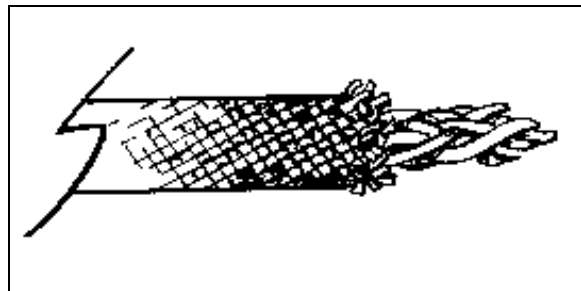

Figure 6-2. Kernmantle (core and sheath) rope.
(2) *Kernmantle ropes*. These ropes are similar to their static counterparts in that they consist of an inner core and an outer sheath. The core is constructed of continuous twisted nylon filaments, which are laid or braided together and enclosed in a tightly braided outer sheath. These ropes are well suited for climbing on rock, snow, or ice where a brief elastic stretch of the rope occurs during a fall. They have a stretch of about 40 percent at the point of failure. The breaking strength is high, and there are no exposed strands for rock crystals to work between to damage the rope (Figure 6-2). There is less sliding friction through the snaplink and over other surfaces, since the outer sheath is smooth. Kernmantle ropes are available in many sizes, lengths, stretch factors, tensile strengths, and fall ratings.